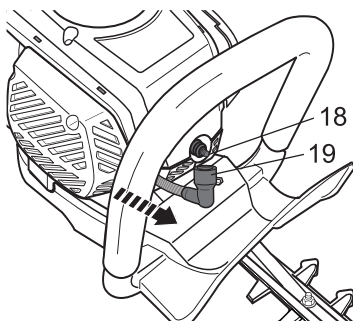

Fig. 27
- > Unplug the spark plug connector (19) (Fig. 27).